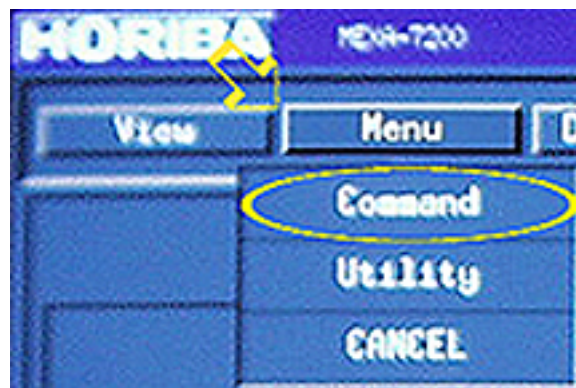

Figure 39
- 150 Click on the “Menu” button. See the arrow in Figure 39. Then click on “Command.” See the circle in Figure 39.